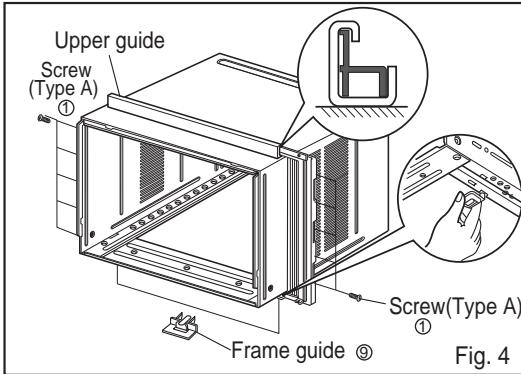

Fig. 4
5. Insert the Frame Curtain into the Upper Guide and Frame Guides. (Fig.4)
6. Fasten the curtains to the unit with 8 Type A screws. (Fig.4)